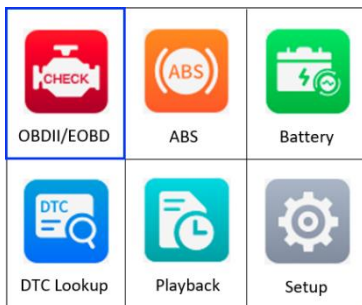

Figure 3-2 Main Screen
- 2) Plug the OBDII cable into the vehicle's DLC. The scan tool will automatically power up and the Main Screen appears. (Figure 3-2)